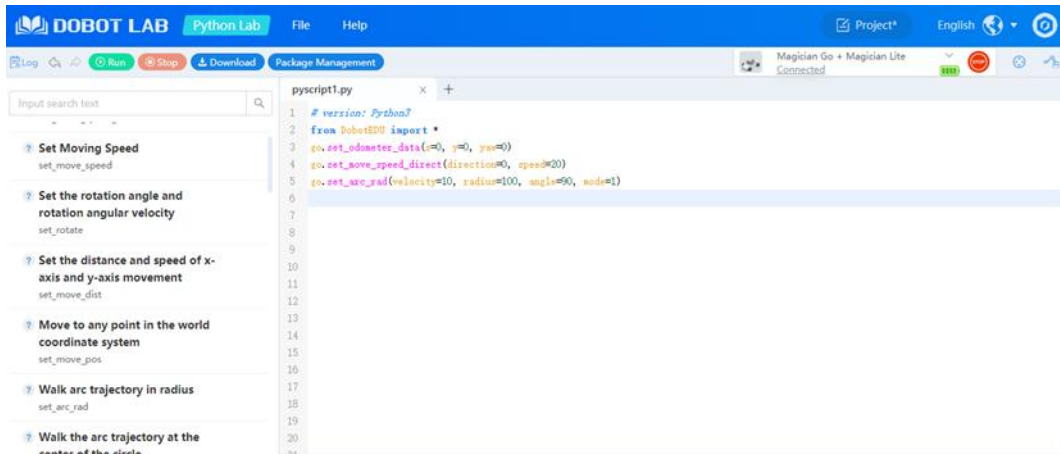

Figure 4.9 Enter Dobotlab
**Step 3** Enter DobotLab (<https://dobotlab.dobot.cc/>), as shown in Figure 4.9. Select corresponding device for connection, and the status LEDs of Magician Go show green. Now you can control Magician Go (and Magician Lite) by blockly programming, Python programming and control panel